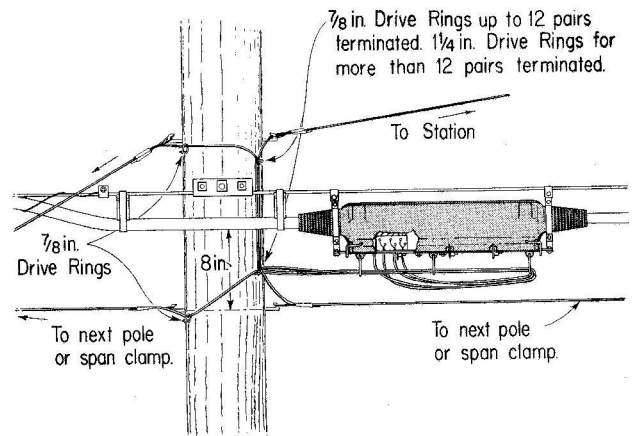

Fig. 1 — Wiring 49-Type Terminal at Pole
2.04 Install drive rings and run wiring as shown in Fig. 1.